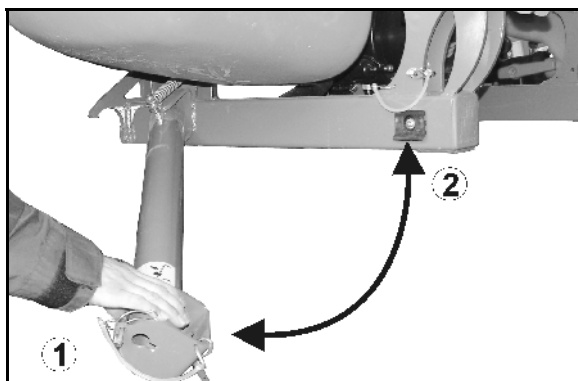

Fig. 27
- svinges bagud (Fig. 27/1) i parkeringsposition.
- svinges fremad (Fig. 27/2) i transportposition.